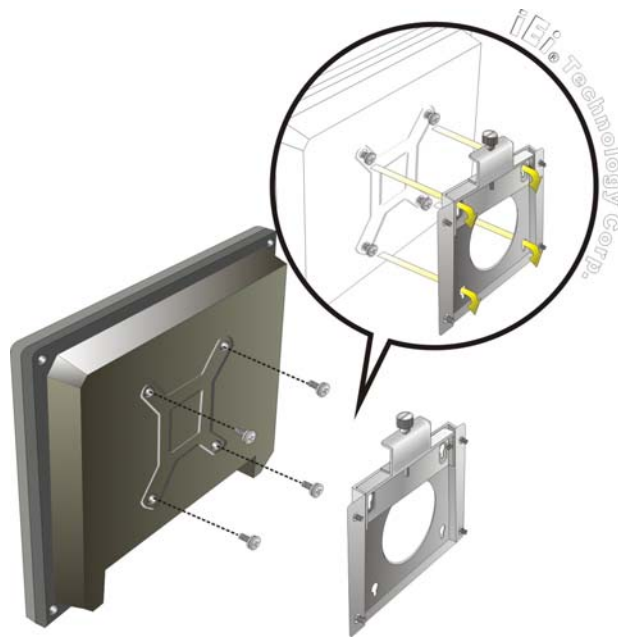

Figure 4-13: Chassis Support Screws
Step 6: Insert the four monitor mounting screws provided in the wall mount kit into the four screw holes on the rear panel of the flat panel PC and tighten until the screw shank is secured against the rear panel (**Figure 4-13**).
Step 8: Carefully insert the screws through the holes and gently pull the monitor downwards until the monitor rests securely in the slotted holes (**Figure 4-13**). Ensure that all four of the mounting screws fit snugly into their respective slotted holes.